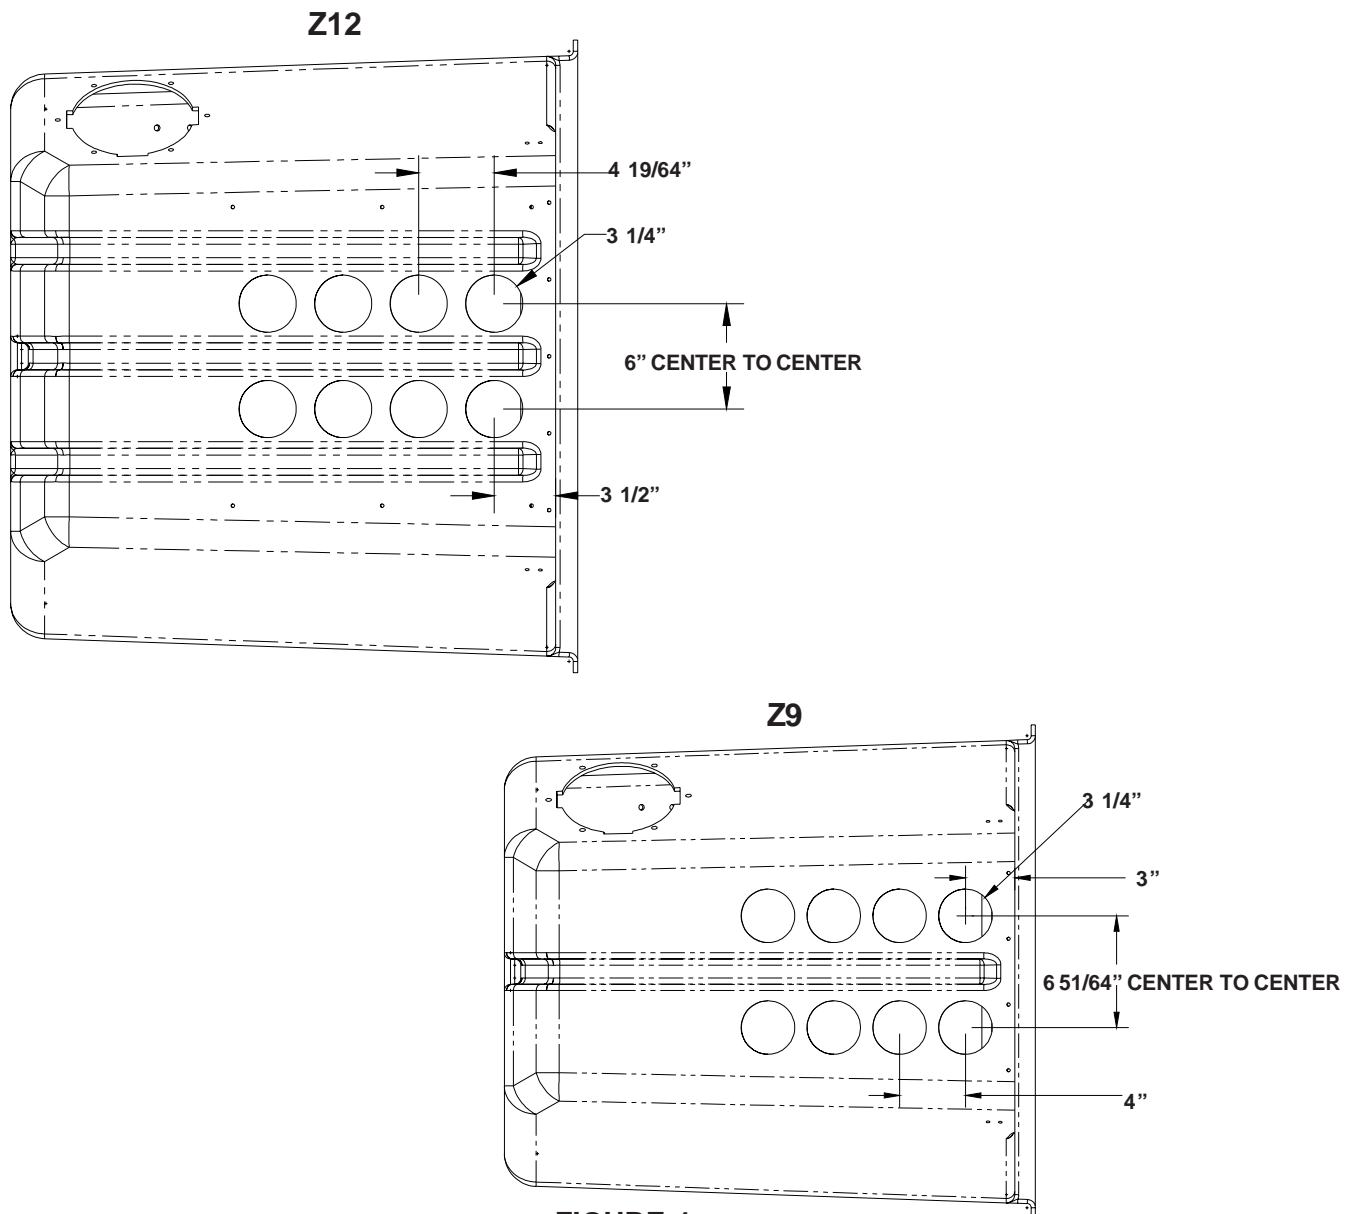

FIGURE 1
5. Measure and mark centers for the eight (8) 3 1/4" vent holes on the top of container. See Figure 1.
6. Using a 3 1/4" hole saw, drill eight (8) holes in the top of the container.